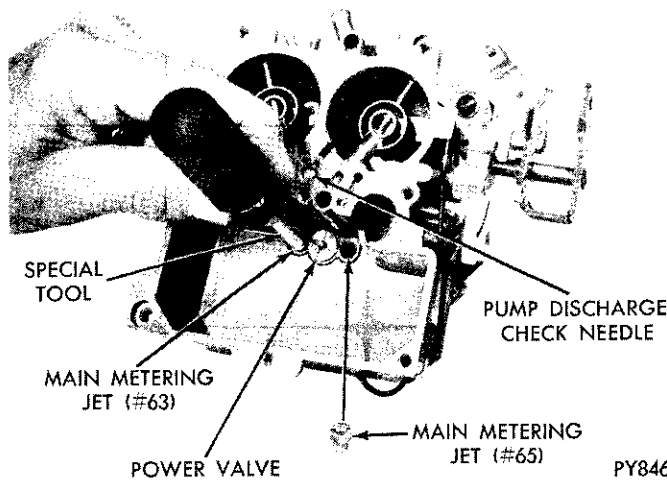

Fig. 12—Removing or Installing Main Metering Jets
(16) Using Tool TMC-36A, remove main metering jets (Fig. 12). (Number 65 located on throttle lever side of bowl; number 63 on opposite side.)
(7) Install main metering jets, using Tool TMC-36A. (Fig. 12). Tighten securely. (Number 65 on throttle lever side and number 63 an other side of bowl.)